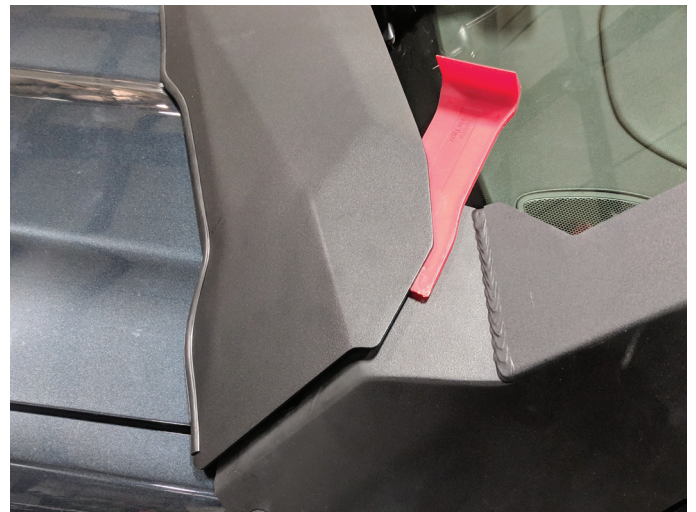

Figure 27
**16. Using a plastic panel pry bar, insert the pry bar under the Cowl and on top of the arm to maintain a symmetrical gap on each arm. (Figure 27)**